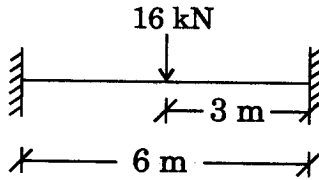

Figure 1
- (a) For the prismatic fixed beam subjected to a point load at the centre as shown in Fig. 1, the bending moment at support and at centre respectively are :